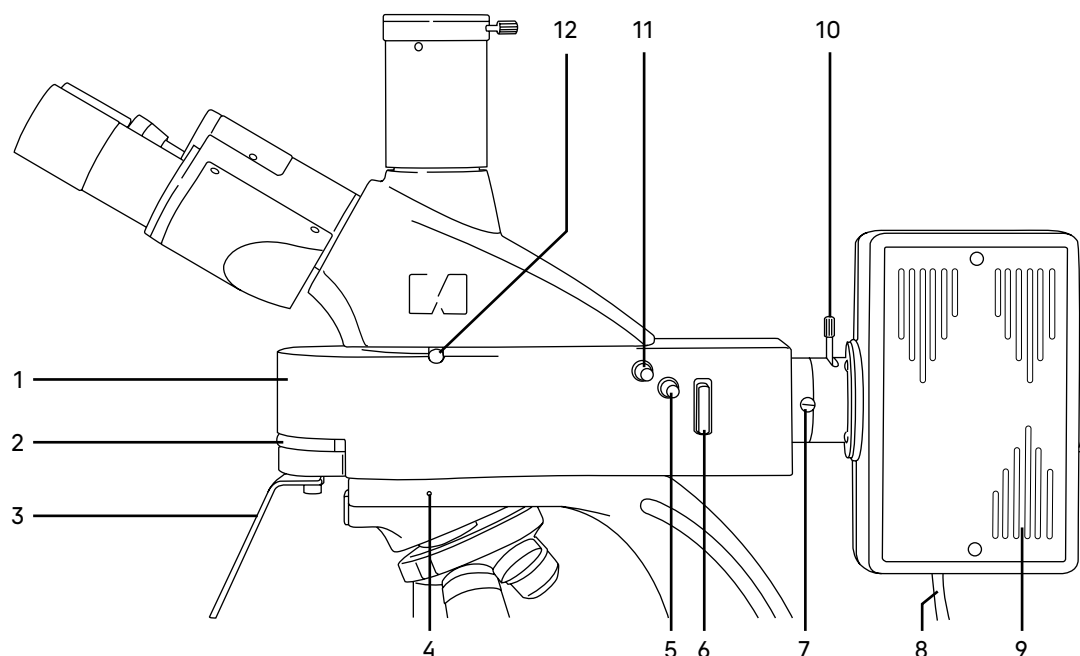

Fig. 3. Epi-fluorescence illuminator
The general view of the epi-fluorescence attachment is given in Fig. 3.
The illuminator body 1 (Fig. 3) is installed in the mounting hole of the top flange of the stand and secured with the screw 4 (Fig. 3).
There is an adapter on the illuminator, which connects it to the mercury lamphouse 9 (Fig. 3). The UV shield 3 (Fig. 3) is attached to the illuminator with two screws.
The metal plate of the filter slider 6 (Fig. 3) is installed in the slot of the illuminator body. The plate has three positions:
There is a rotating turret inside the illuminator with four fluorescence filter sets. The turret is moved by rotating the wheel 2 (Fig. 3). The locked position of the knob under the symbol means that the corresponding filter set is in the optical path.
The turret wheel can be locked in one of the five positions corresponding to one of the four filters mounted on the turret: blue (B), green (G), violet (V), and ultraviolet (UV), or the neutral position (O). The marking of each filter corresponds to the color of the excitation light and its symbol is inscribed on the wheel 2 (Fig. 3).
The mercury lamphouse 9 (Fig. 3) is secured to the epi-fluorescence illuminator 1 (Fig. 3) with the screw 7 (Fig. 3). Inside the mercury lamphouse, there is a collector that projects the image of the light source, the glowing discharge arc of the mercury lamp, into the exit pupil of the objective. The collector is moved along the optical path of the microscope using the knob 10 (Fig. 3).
Set the filter turret wheel 2 (Fig. 3) to "0" position.
Set the plate 7 (Fig. 3) into a "shutter" position.